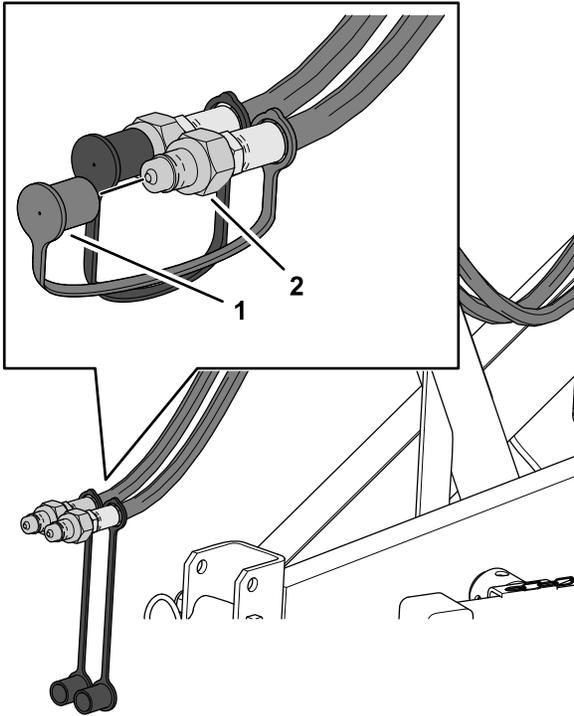

Figure 3
2. Disconnect the 2 hydraulic hoses from the tow vehicle (Figure 3).
3. Install the dust caps over the hydraulic couplers (Figure 3).